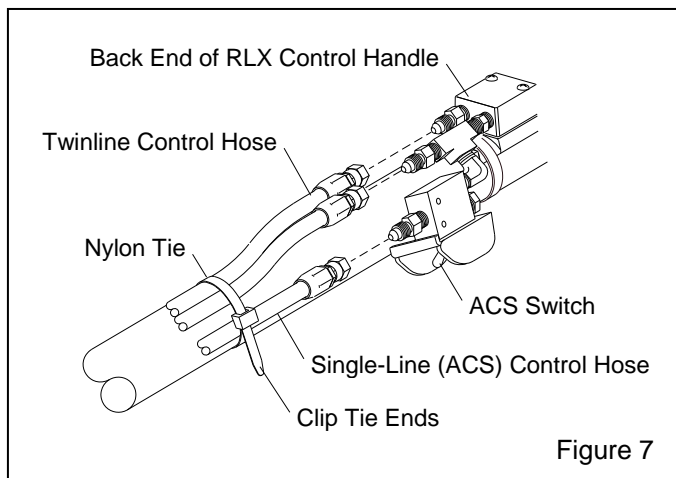

Figure 7
2.3.3 Refer to Figure 7 and attach the 50-ft. twinline hose to the two fittings on the back of the control handle. Either side of the hose can be attached to either fitting.
2.3.6 Working from the control handle back, band the twinline and single-line hoses to the blast hose every four to six feet, as shown in Figure 7, and as close to the couplings as possible.